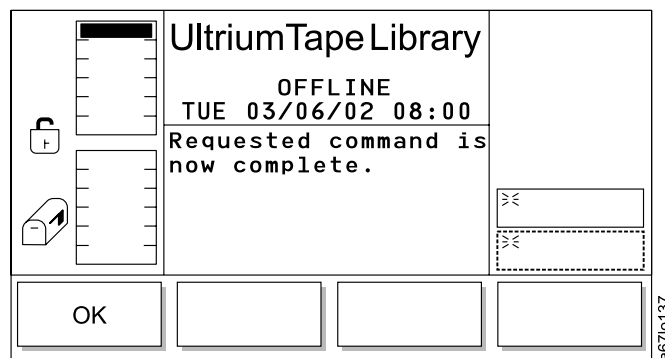

Figure 43. Command Complete screen
- e. Select **OK**, and the FAST Read/Write Test begins. The operator panel displays the message Currently loading the cartridge..., then Diagnostic now in progress..., then Currently unloading the cartridge.... When the test is complete, the Command Complete screen displays (see Figure 43).